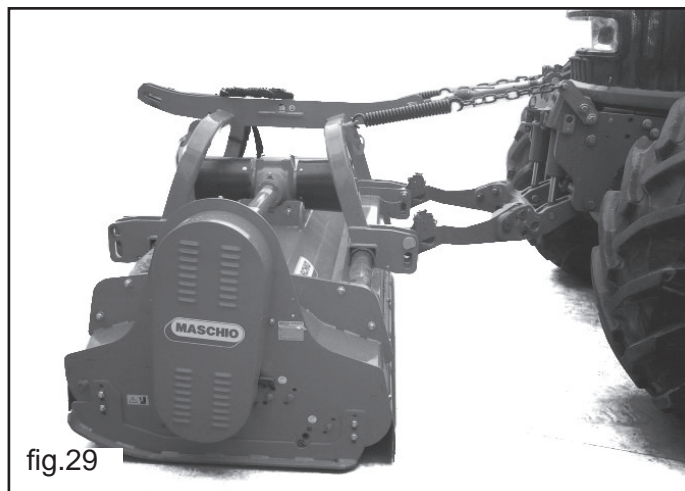

fig.29
4.12.2 FRONT FLOATING SPRINGS KIT (ONLY FOR FRONT HITCH) (fig.29)